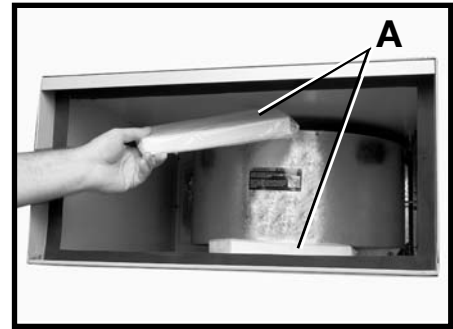

Fig. 2C
4. Remove styrofoam blocks (A) Fig. 2C, and replace filters.